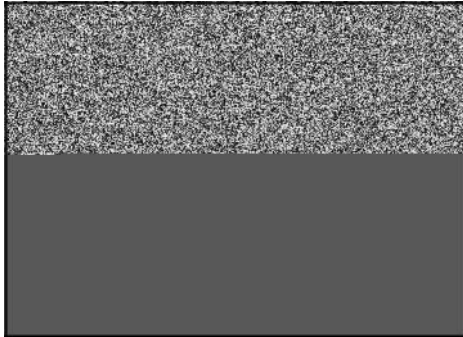

Figure 30
1. Remove the crankshaft gear (**F**, Figure 30) from the crankshaft (**A**). If the gear is tight, pry it off using two screwdrivers, being careful not to damage the gear.